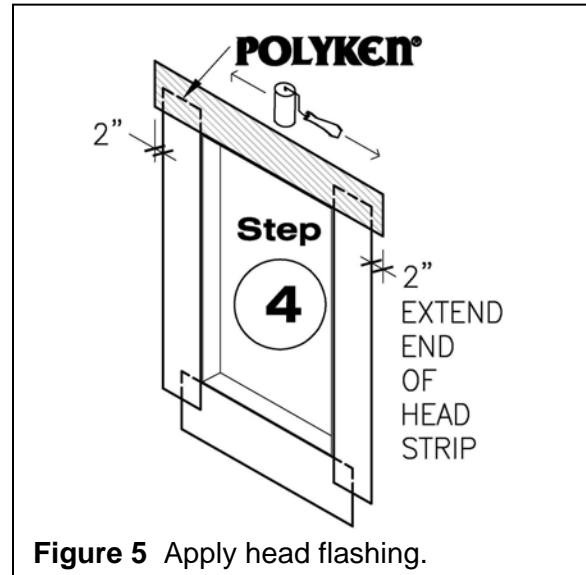

Figure 5 Apply head flashing.
Step 4. Precut Polyken® or Nashua® head flashing tape to extend a minimum of 6" beyond the jambs of the rough opening. Peel off release liner and adhere Polyken® or Nashua® head flashing over head opening and jamb flashings (see Figure 5).